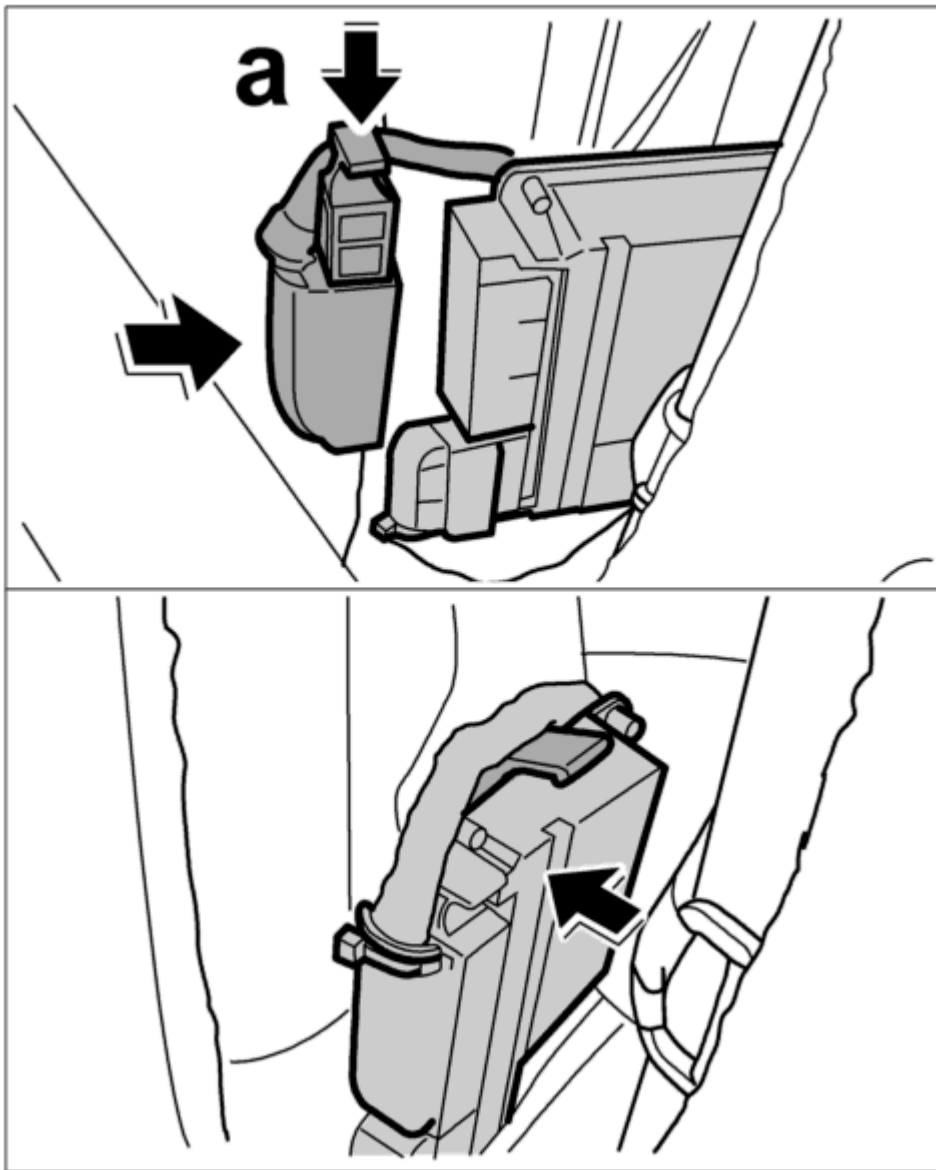

Fig. 62: Push plug on at the top of the level control module.
2. Position the control module in the installation position and insert the second plug on the control module and lock it -a- . See **Fig. 62.**